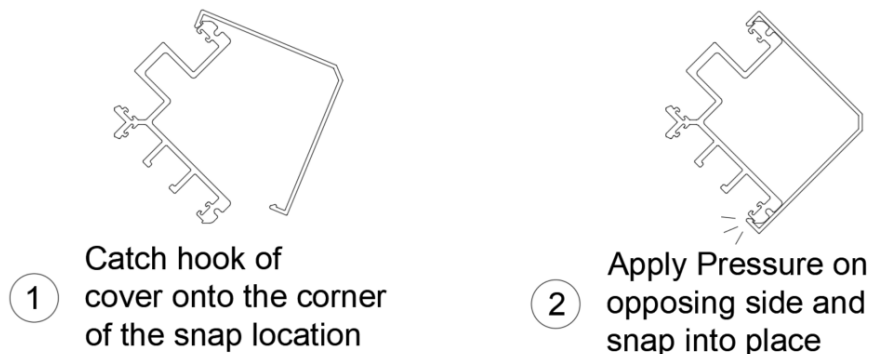

Figure 32
3. When panels are ready to be installed, locate the corner astragal panel and the separately packaged astragal cover (Item 14). Align the cover with the bottom of the astragal and snap into place (Figure 32). Verify the cover is aligned with the top and bottom of the astragal.